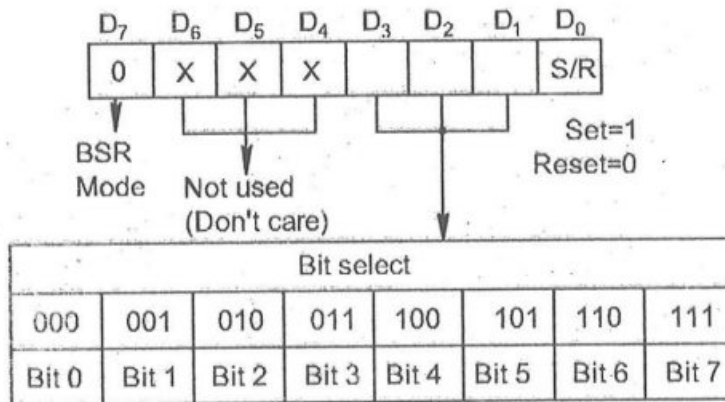

Fig 5.8 Control word format for BSR mode
- Control word format for BSR mode as shown in the fig 5.8.